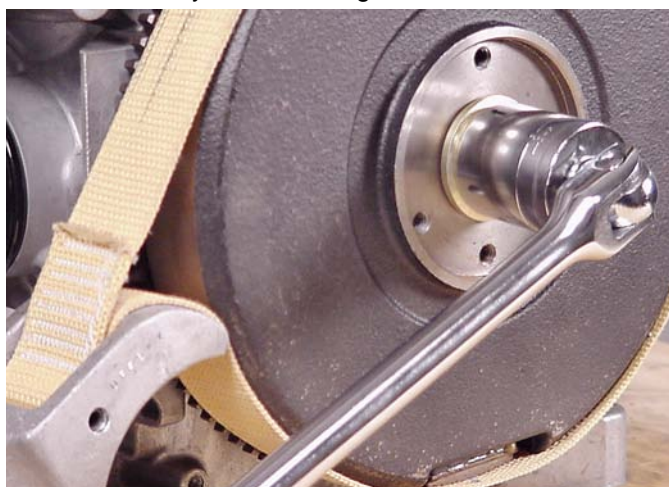

Fig. 50
4. Loosen flywheel nut, Fig. 50.